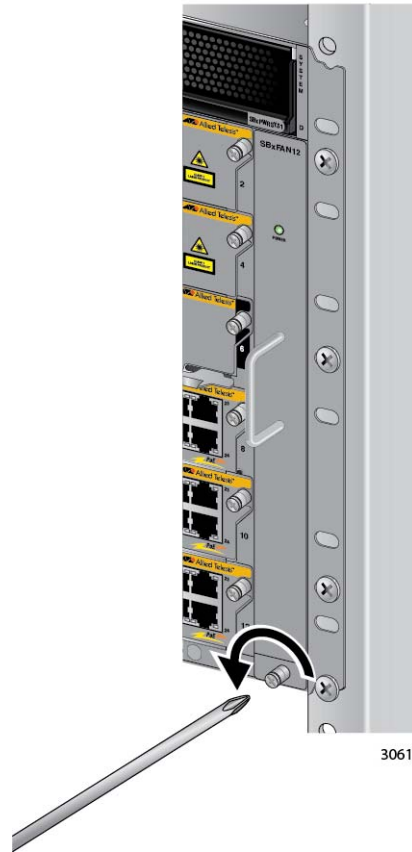

Figure 149. Loosening the Screw on the AT-SBxFAN12 Fan Module
2. Use a #2 Phillips head screwdriver to loosen the screw at the base of the fan module. Refer to Figure 149 on page 225.